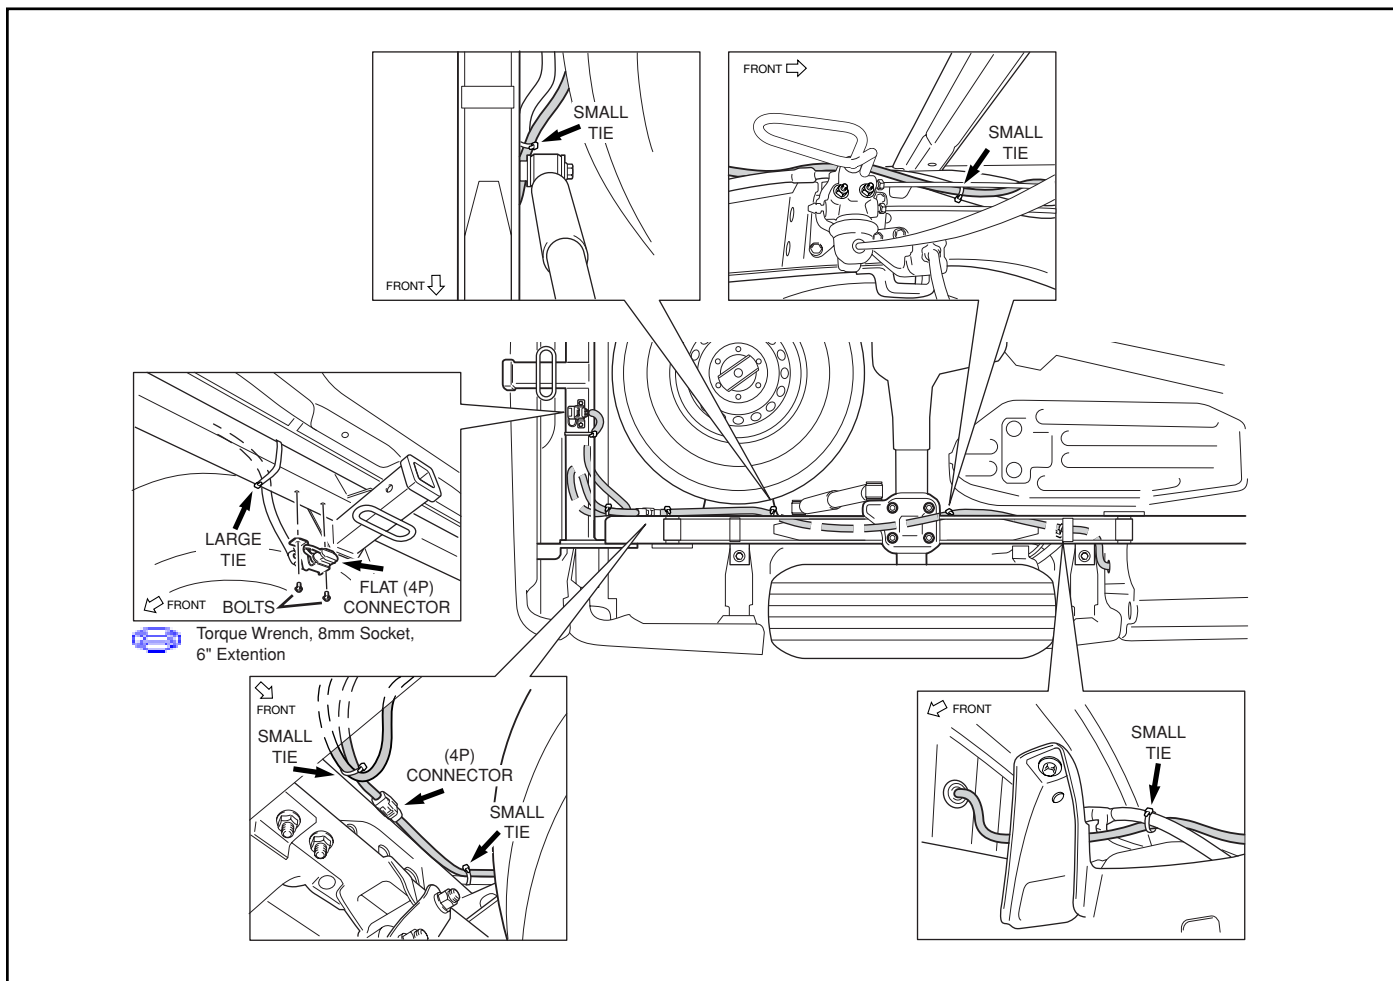

Fig. H9
- ➔ i. Route and secure (4P) wire harness and sub wire harness with plastic ties as shown. (Fig.H9)
- ➔ ii. Fasten flat (4P) connector with 2 bolts (included in kit). Torque bolts to 3.9 N•m [40 kgf•cm, 36 lbf•in]. (Fig. H9)